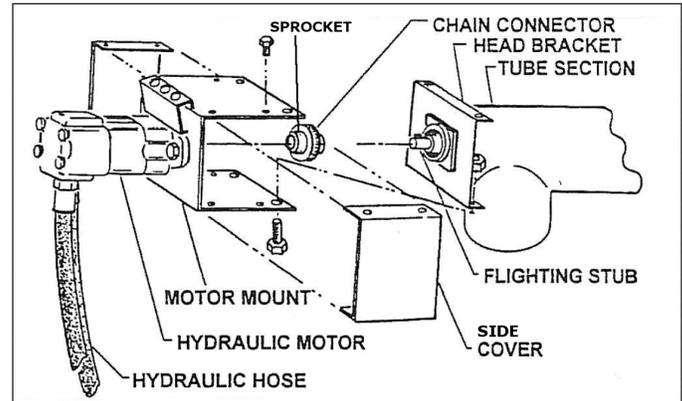

Figure No. 1
1. Remove connector chain (with one sprocket) from motor assembly (see **Figure No. 1**). Clean paint and dirt from flight shaft and inside sprocket hub.